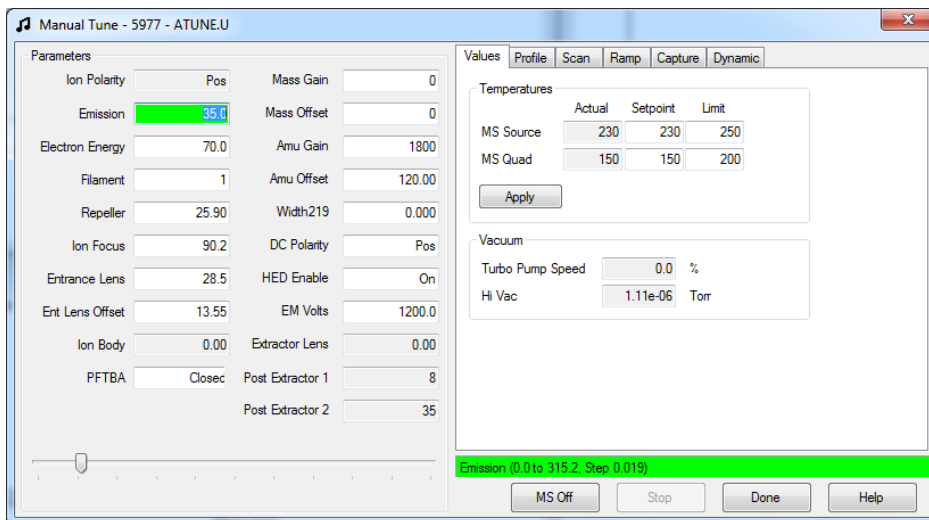

Figure 31 Manual Tune Values tab HiVac reading
- 5 Select the **Values** tab to view the HiVac reading. (See Figure 31 on page 102.)